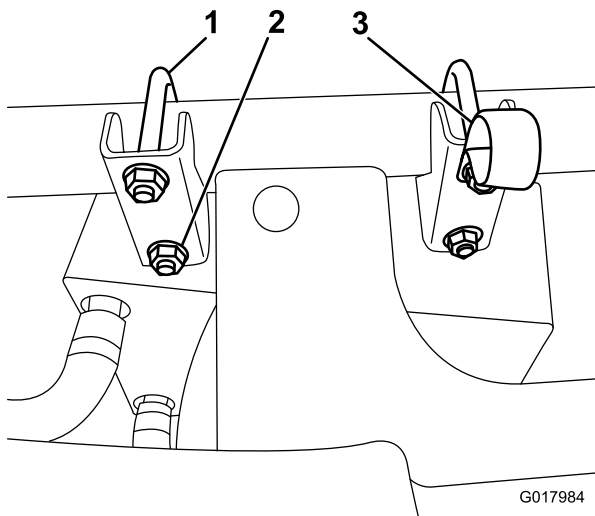

Figure 4
2. Attach the heater and bracket assembly onto the front frame tube using the square U-bolts and flange nuts provided (Figure 4).
3. Attach the r-clamp under the top nut closest to the center of the vehicle (Figure 4).